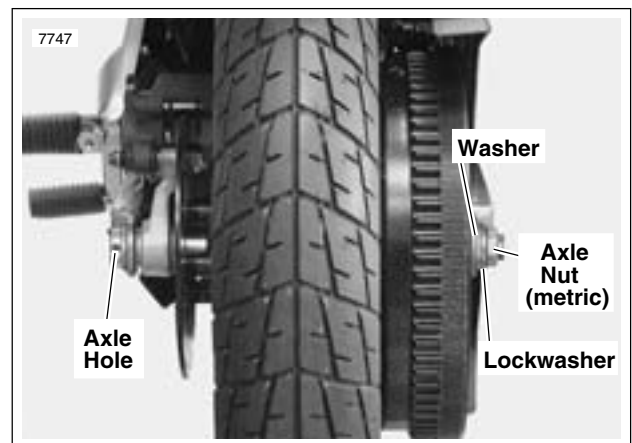

Figure 1-19. Rear Wheel Mounting
4. See Figure 1-19. Place rod or screwdriver through axle hole. Loosen rear axle nut (1) (metric).